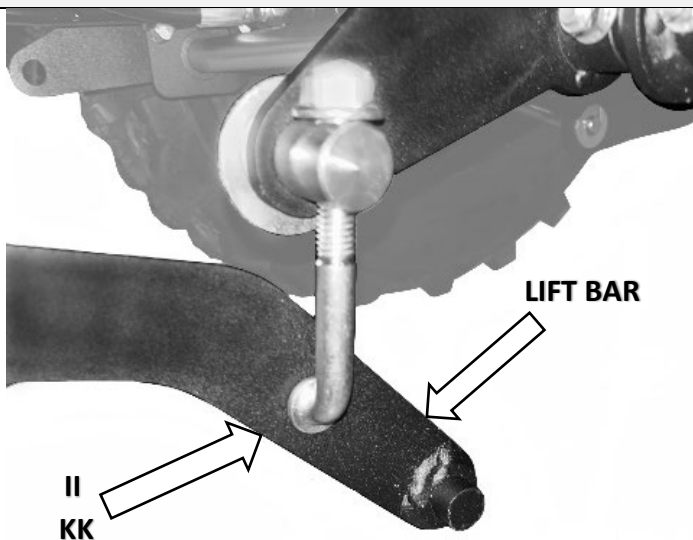

Figure 3C
3. Insert the L-Bolt into the appropriate hole on the rear portion of the Lift Bar as indicated (Figure 3C). Secure with the II flat washer and the KK cotter pin.